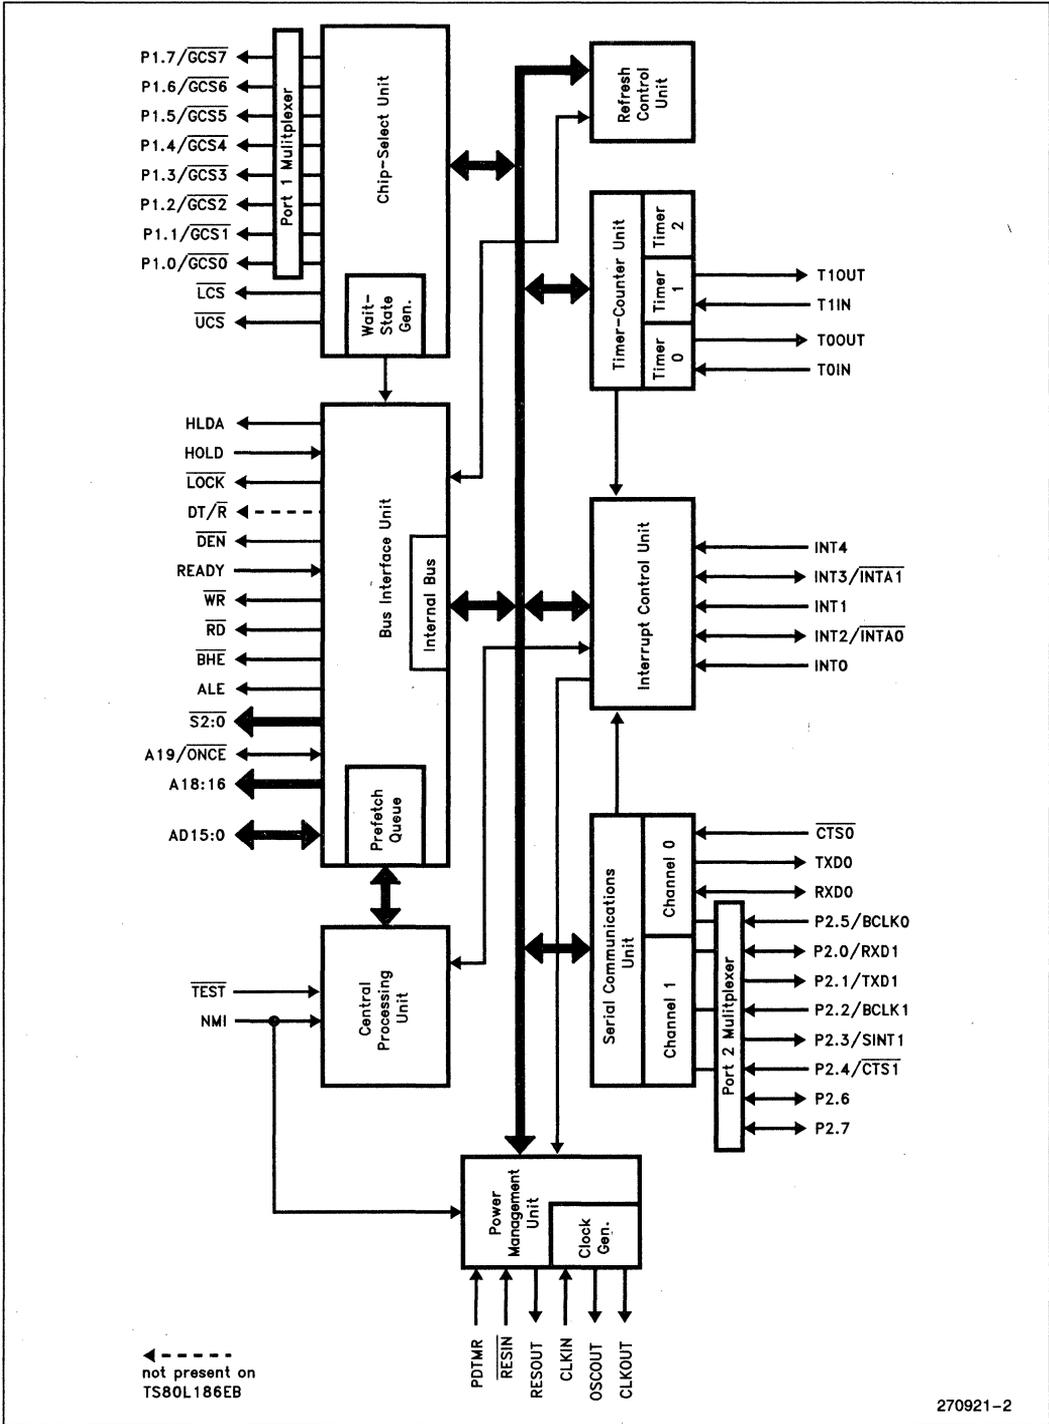

Figure 1. 80L186EB Block Diagram
Figure 1 shows a block diagram of the 80L186EB. The Execution Unit (EU) is an enhanced 8086 CPU core that includes: dedicated hardware to speed up effective address calculations, enhance execution speed for multiple-bit shift and rotate instructions and for multiply and divide instructions, string move instructions that operate at full bus bandwidth, ten new instructions and full static operation. The Bus Interface Unit (BIU) is the same as that found on the original 186 family products, except the queue-status mode has been deleted and buffer interface control has been changed to ease system design timings. An independent internal bus is used to allow communication between the BIU and internal peripherals.